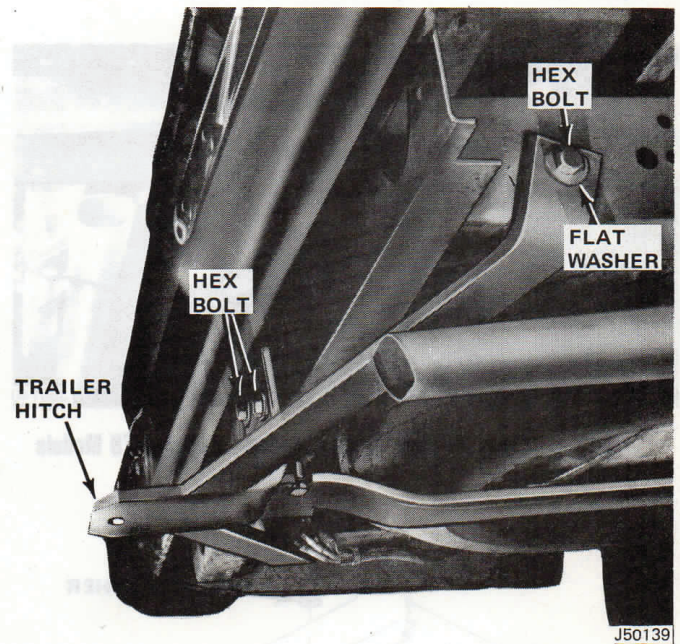

Fig. 8-1 Class I Trailer Hitch Installed
(1) Lower spare tire for access to inner sides of crossmember and frame.
(2) Remove undercoating from surfaces where hitch attaches to crossmember and frame.
(3) Place trailer hitch in position on vehicle (fig. 8-1). Ensure hitch is centered and that bolt holes align.